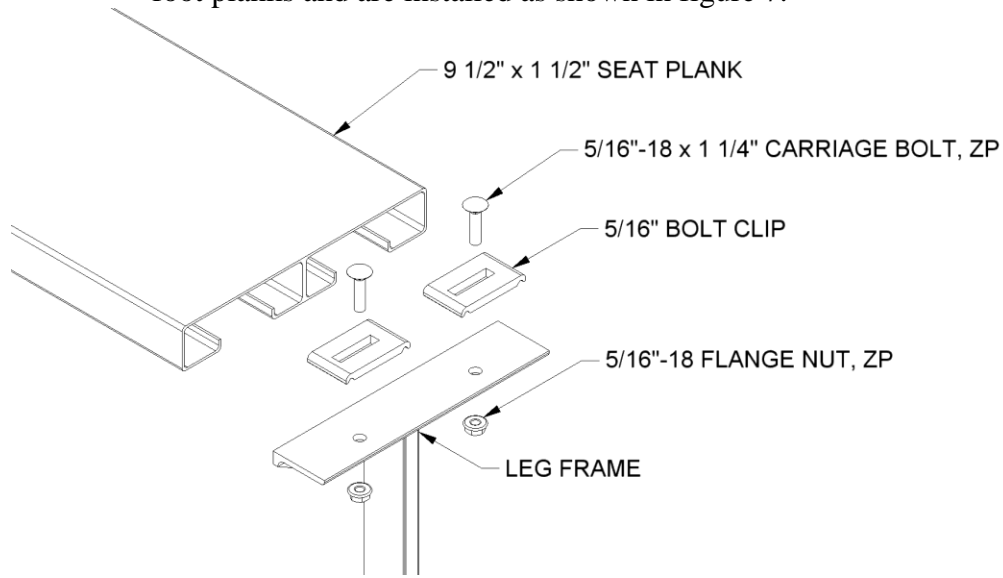
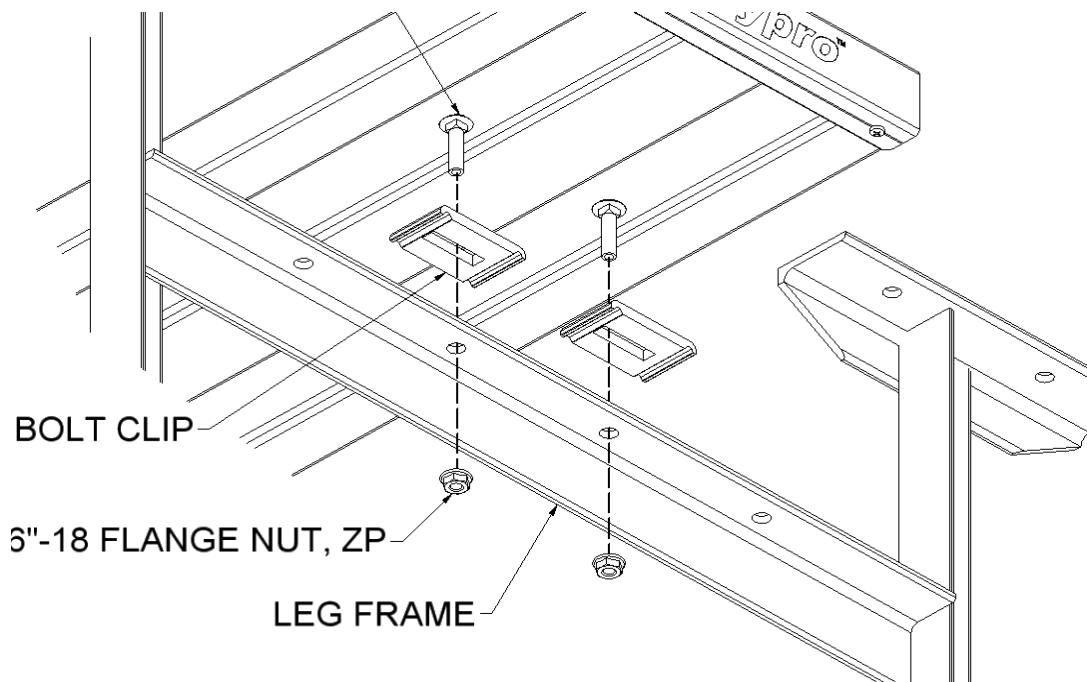
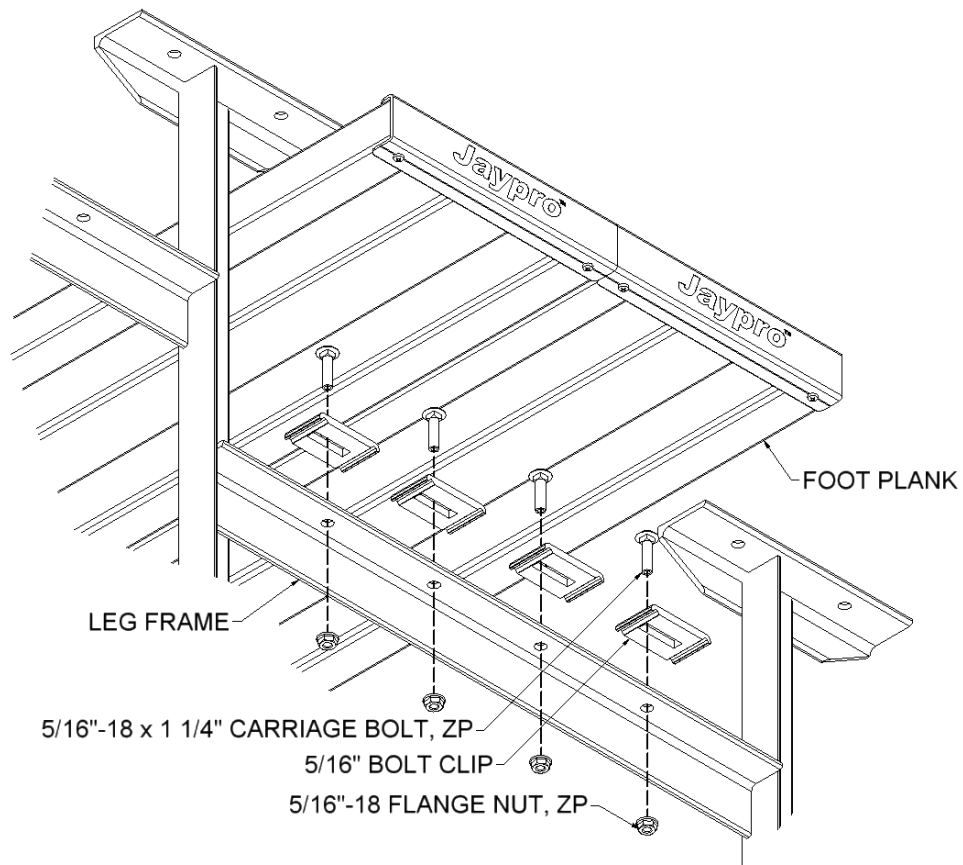

FIGURE: 5
FIGURE: 6
FIGURE: 7
5. Making sure the undercarriage frame is square and plumb, install the seat and foot planks. The seat and foot planks are best installed starting from the front seat and working towards the back. Use the hardware and bolt clip as shown in figure 5. Position planks so they are centered on the frame, with equal amount of overhang on each end. Note that standard bleachers (BTBB-321) have a single foot plank, which is centered on the support frame, see figure 6. Preferred bleachers (BTDP-321) have double foot planks and are installed as shown in figure 7.